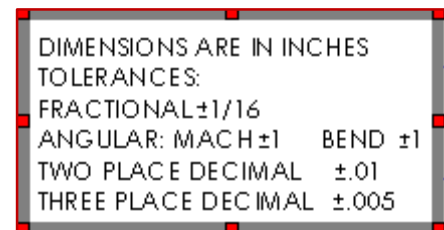

Figure 12.5 – Tolerances in the Title Block
- ✓ **Drafting Standard** – Verify that **ANSI** is selected as the drafting standard. See Figure 12.5.